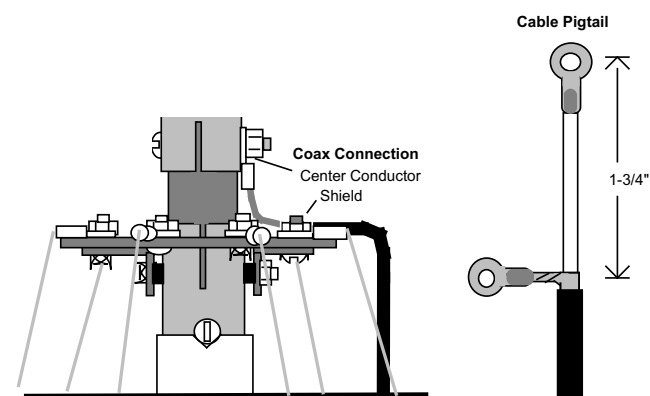

**Figure-14: Raising Antenna**
- [ ] Slip a large worm clamp on top of base section, positioning below split in tube (see **Figure-14**).